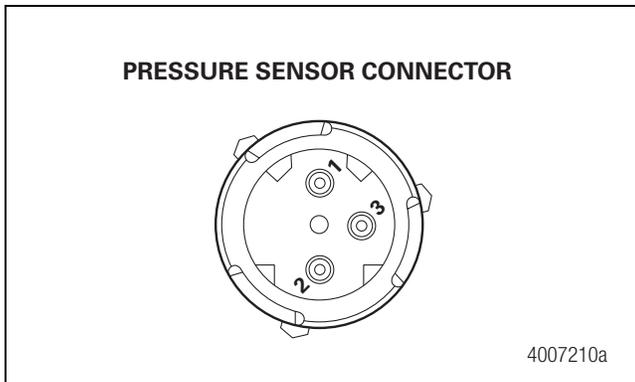

Figure 3.29
- Take measurements at the pressure sensor harness connector. Figure 3.29.